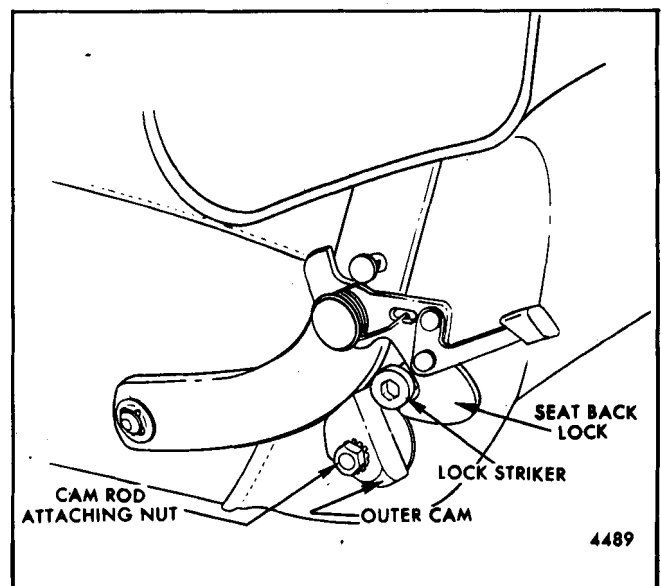

Fig. 14-44-Adjustable Drivers Seat Back - Outer Side - Chevrolet "F" Styles
2. At left side of seat, remove nut securing outer cam to cam rod (see Figs. 14-44 and 14-45) and remove cam from rod.
3. At outer side of seat remove nut securing outer cam to cam rod (Fig. 14-44) and remove handle and cam (see Figs. 14-44 and 14-45).